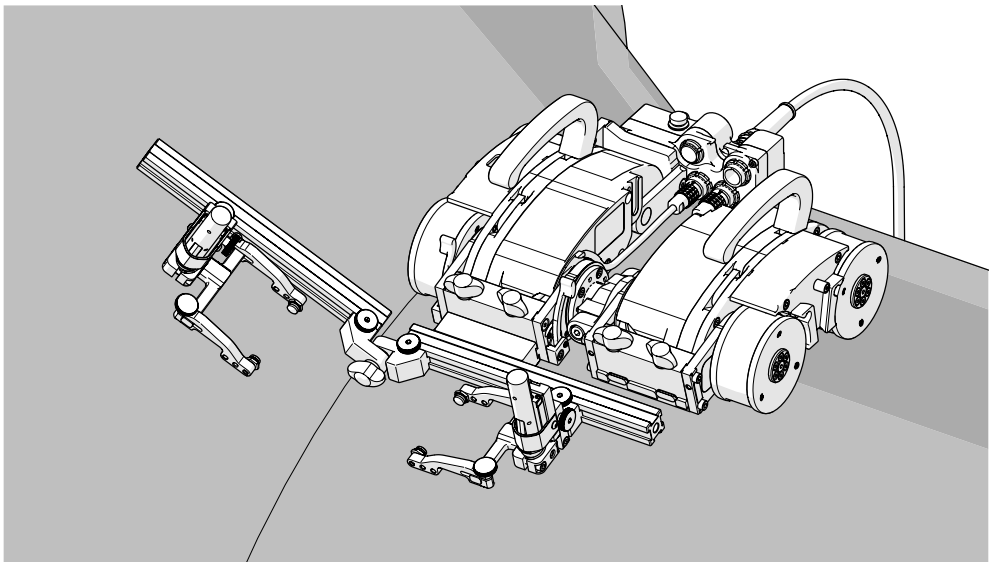

Fig. 273 - Align frame bar with flange scan surface
4. Loosen the pivot wing knob and align the frame bar parallel with the scan surface (*Fig. 273*).